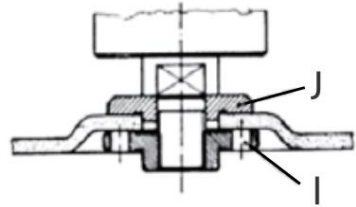

Fig. 2
5. Insert the fastening flange (I) on the spindle and tighten manually.
- a. For cutting discs with a flat or depressed centre hole, install the flange with the flat side inwards facing the disc (Fig. 2).